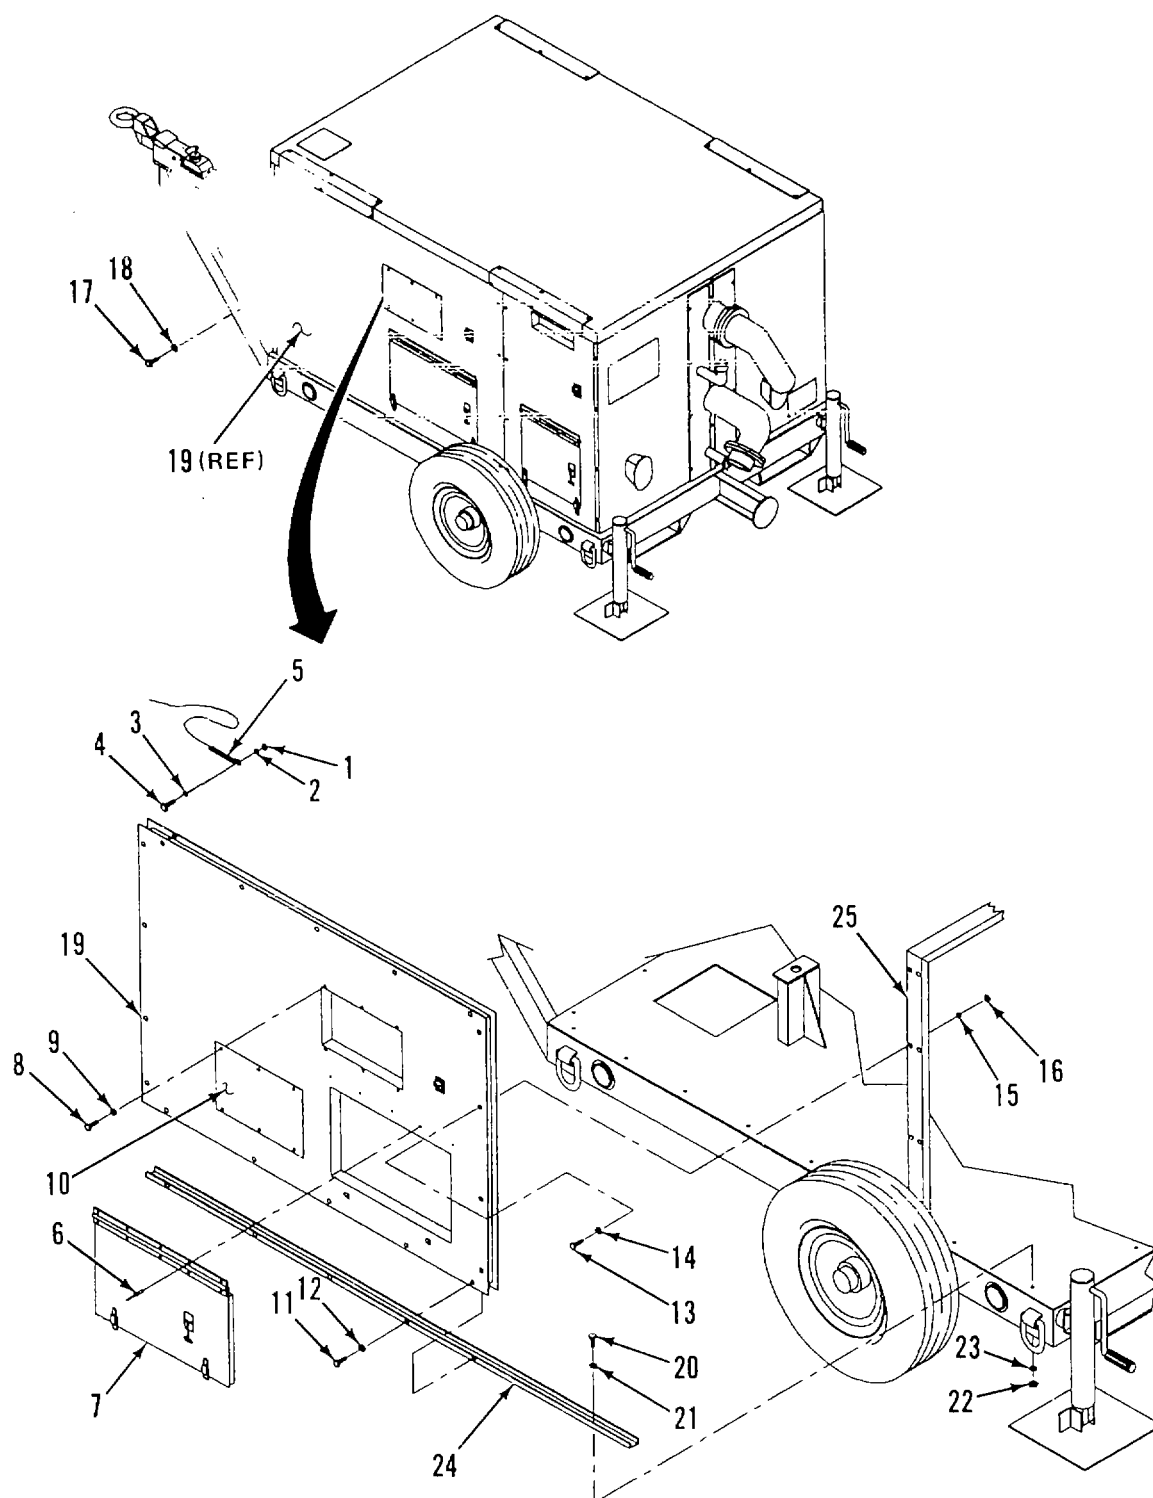

Figure 3-7. Left Panel
a. REMOVE. (Figure 3-7)
- (1) Remove nut (1), flat washers (2 and 3), and bolt (4) that secure chain (5) for exhaust panel assembly.
- (2) Remove rivets (6) (para. 3-6).
- (3) Remove engine access hinged panel (7).
- (4) Remove bolts (8), flat washers (9), and upper access panel (10).
- (5) Remove bolts (11) and flat washers (12).
- (6) Remove bolts (13), nuts (16), and flat washers (14 and 15).
- (7) Remove bolts (17), flat washers (18), and left panel (19).
- (8) Remove bolts (20), flat washers (21), nuts (22), lockwashers (23) and mounting bracket (24).